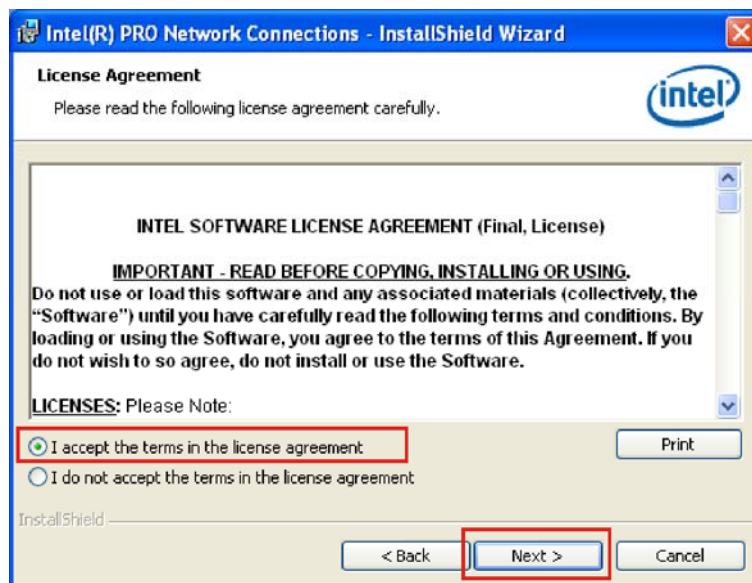

Figure 7-14: LAN Driver License Agreement
Step 5: The license agreement in **Figure 7-14** appears.